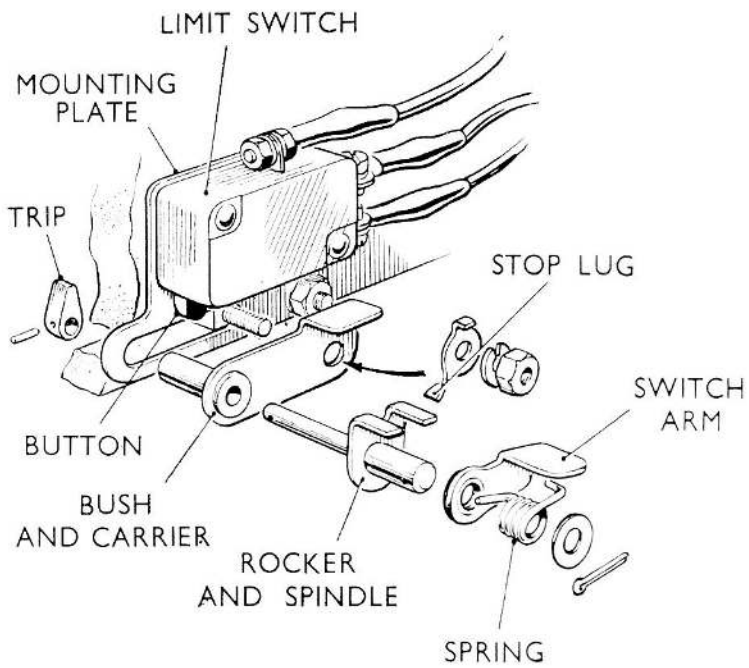

Fig. 4. Limit switch assemblies
14. Each switch assembly (fig. 4) consists of a limit switch, riveted to a mounting